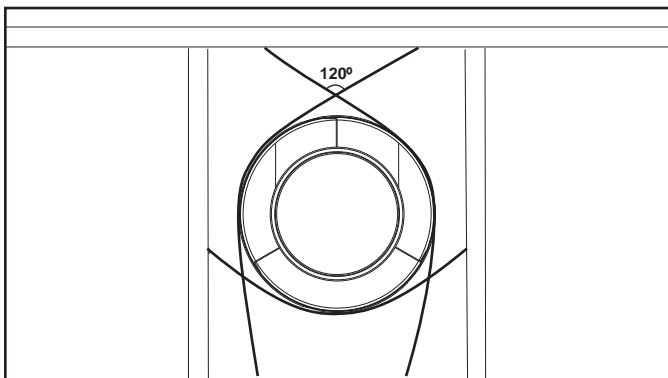

Figure 10.5 Securing Vertical Pipe Sections
- Vent supports or plumbers strap (spaced 120° apart) may be used to support vent sections. See Figures 10.5 and 10.6.